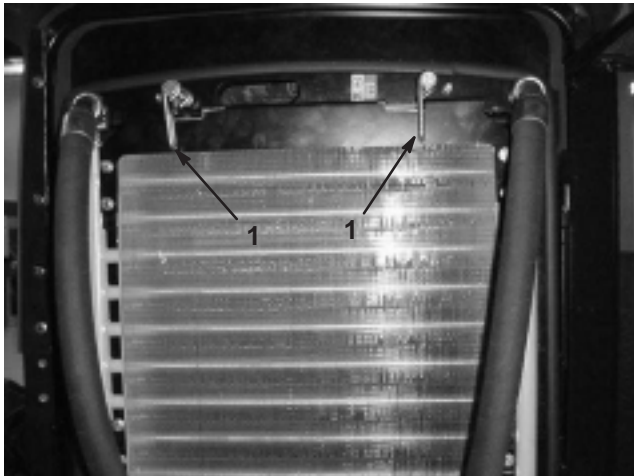

Figure 34
2. Rotate latches (Fig. 34) securing the oil cooler to the frame.